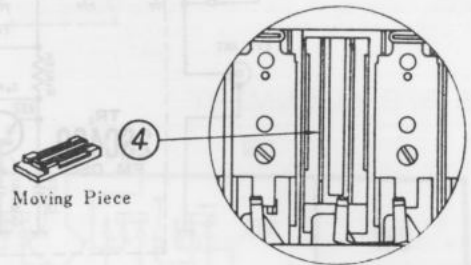

Fig. 6
5. Remove the moving piece ④ (Fig. 6).